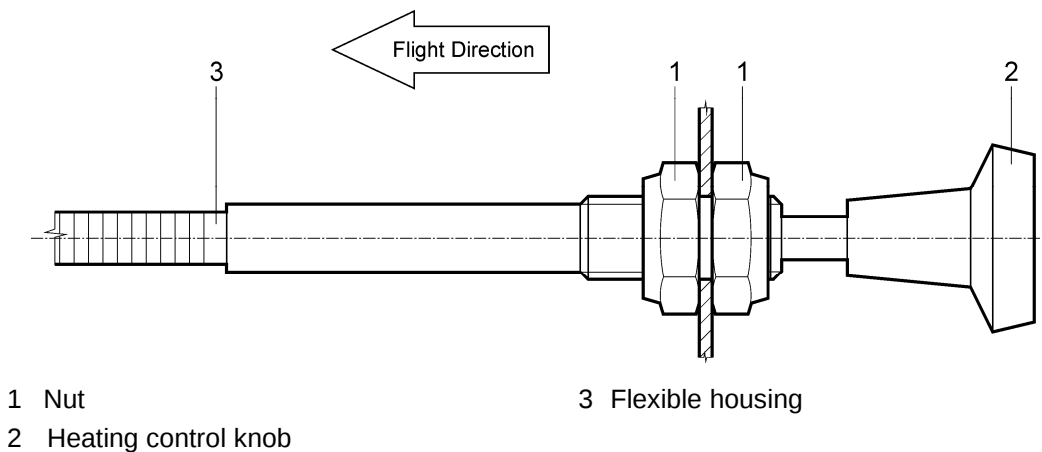

Fig. 13-4: Heating control knob
(b) Remove the nuts (1, Fig 13-4) thus releasing the flexible housing (3) with the heating control knob (2).
(a) Insert the heating control knob (2, Fig. 13-4) into the flexible housing and fasten it from both sides of the instrument panel by means of nuts (1).